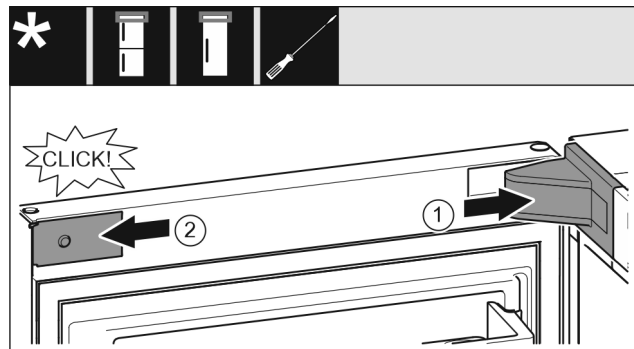

Fig. 21
- ▶ Position the bearing bracket cover and engage it. If necessary push it apart carefully. Fig. 21 (1)
- ▶ Position the panel on the side and latch into place. Fig. 21 (2)